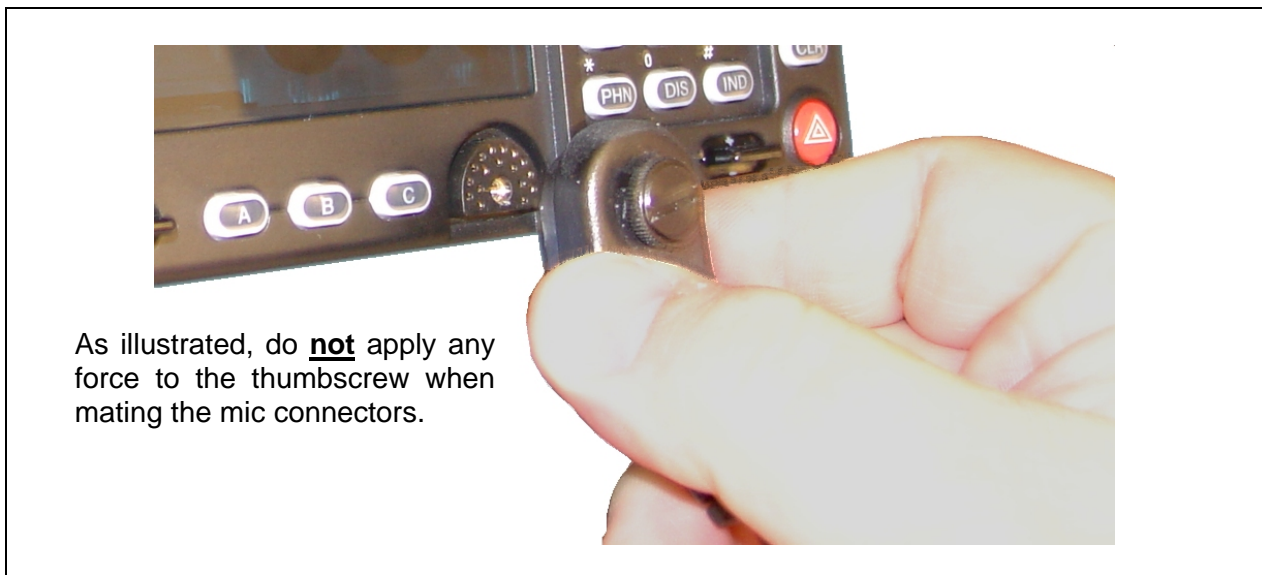

Figure 8-1: Attaching the Microphone to the CH-721 Control Head
1. As illustrated in Figure 8-1, grasp the mic's connector with a thumb and index finger on the sides of the connector just adjacent to the thumbscrew.